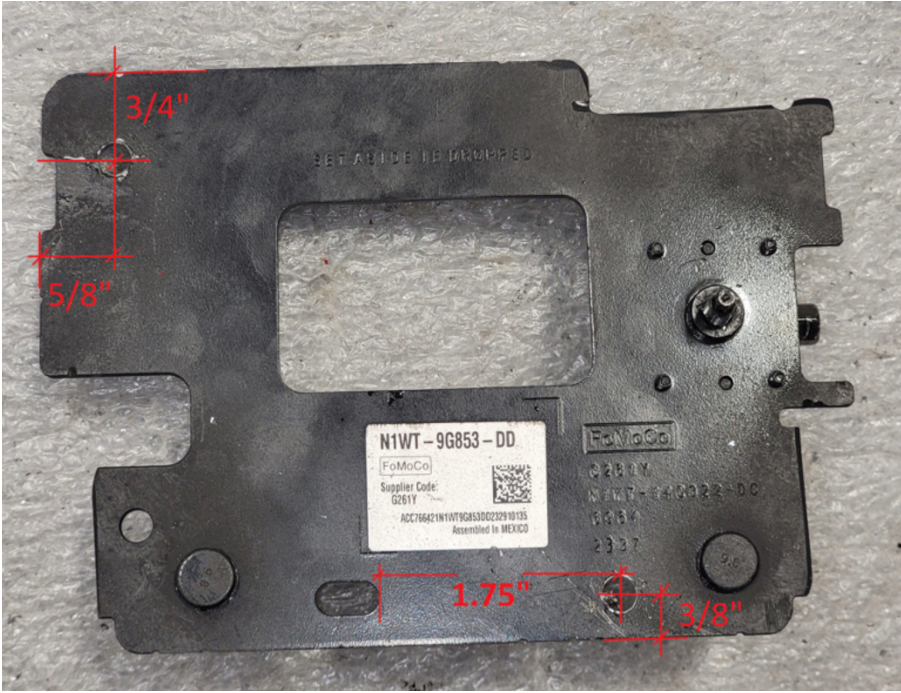

Figure 19
19. Mark and drill 2x 1/4" holes in the ACC bracket shown below. Figure 19.